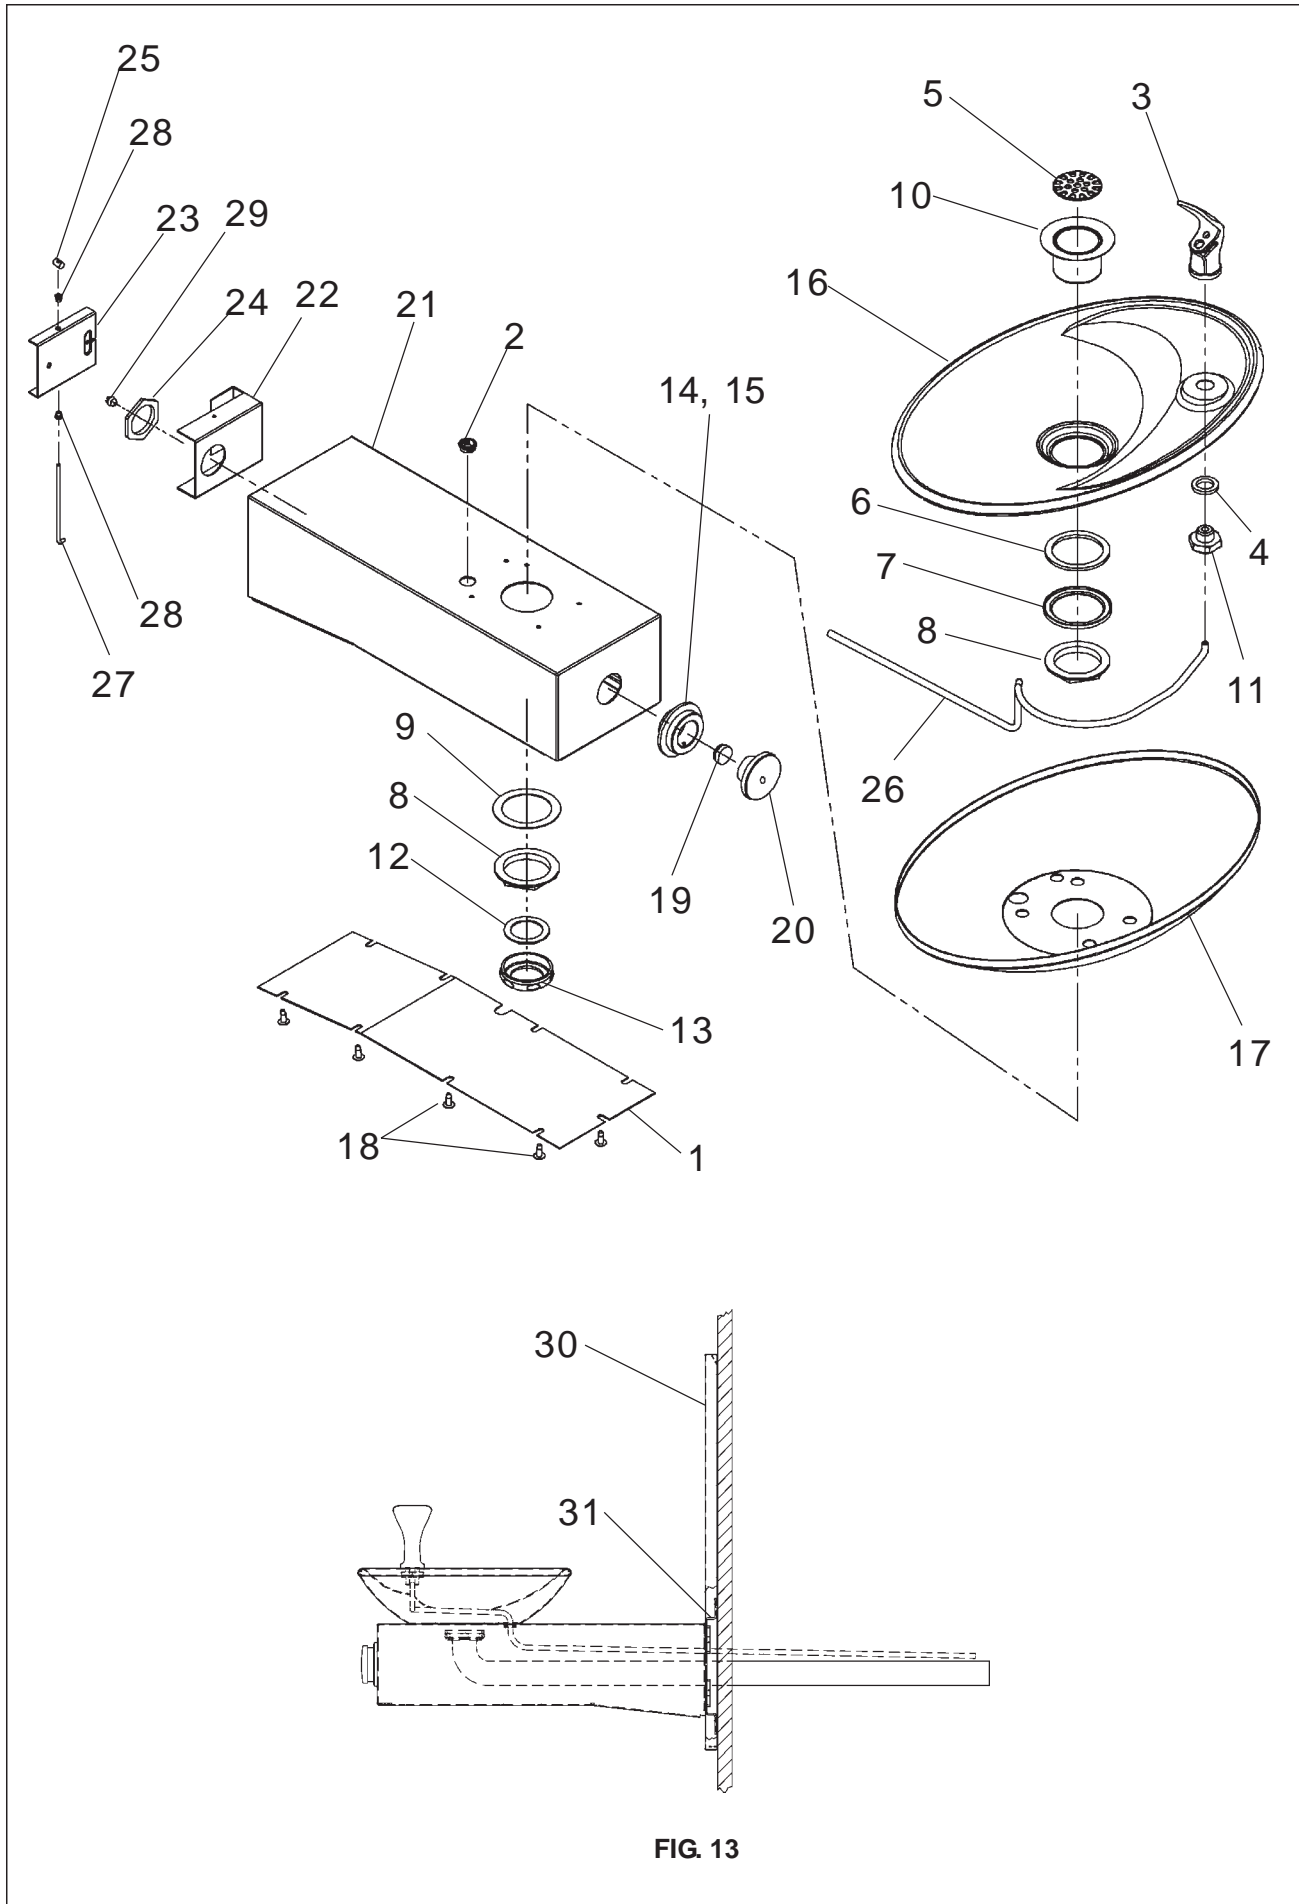

FIG. 13
7. Connect water line from fountain bubbler into freeze resistant box. The connection to the box uses a quick connect water fitting. Position the water line, in the fountain, to drain back into interior mounted box. Any water left standing, in the exterior line, can freeze. See Fig. 13.